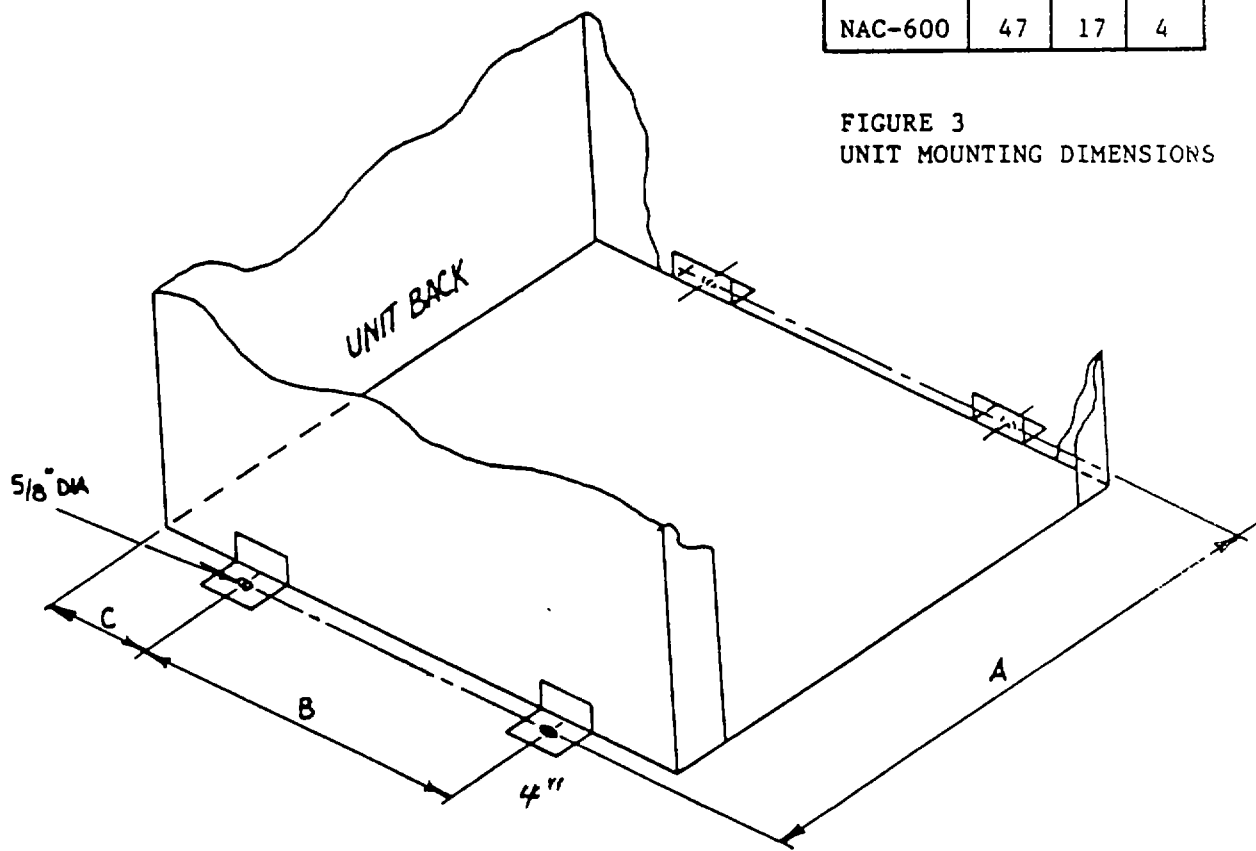

FIGURE 3
- 1.4.7 The NAC-600 marine air conditioner base mounting dimensions have been included in Figure 3. The discharge and/or duct work connection dimensions for the Model NAC-600 air conditioner are illustrated and defined in Figure 3 to provide for field installation dimensions when the use of a plenum is not required.